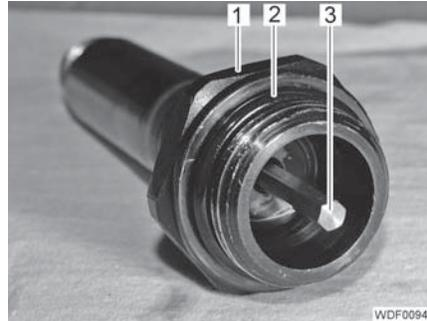

Fig. 172 Core with slide valve
- Replace 1 O-ring (Fig. 172,2).
- Screw in the core (Fig. 172,1) with the slide valve (Fig. 172,3) into the segment and tighten it hand-tight.